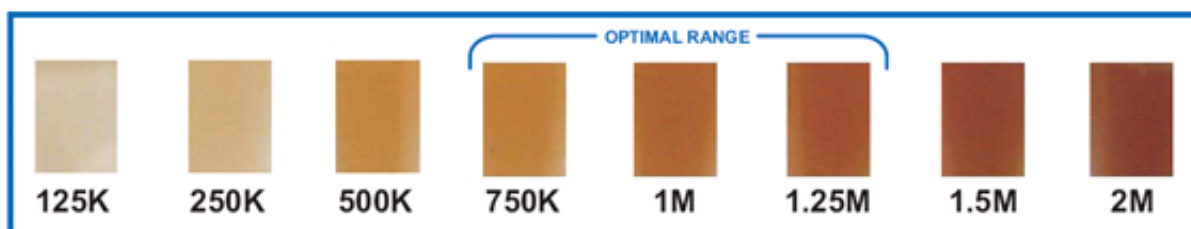

Figure 19 The SOLiD™ Bead Concentration Chart (facsimile). For best results, use the SOLiD™ Bead Concentration Chart (PN 4415131), supplied separately.
4. Use the SOLiD™ Bead Concentration Chart (Applied Biosystems PN 4415131) to estimate the bead concentration of the beads (see Figure 19 for a picture of the chart; for best results use the official chart).